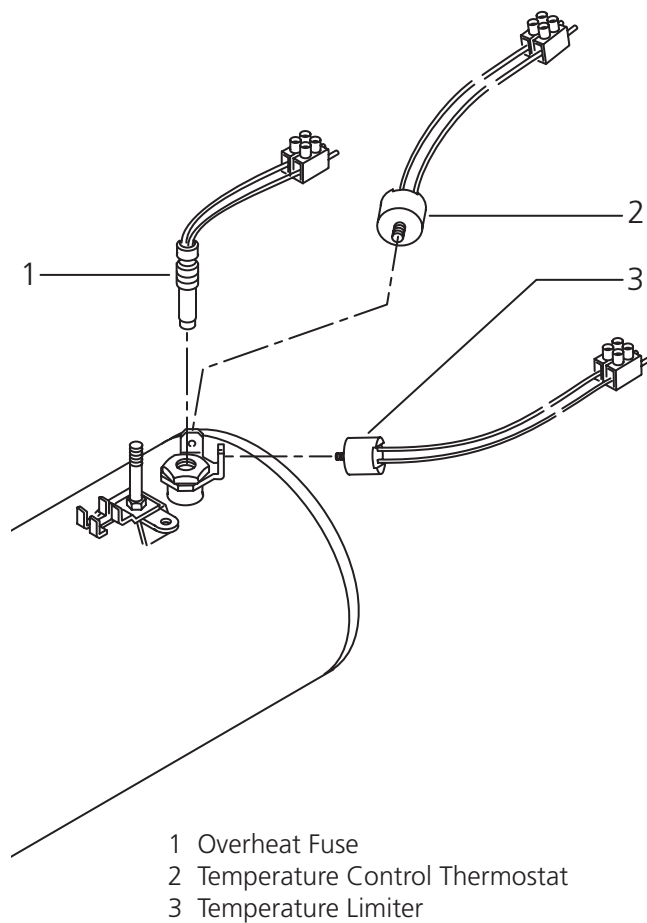

Figure 36: Temperature Control Elements
2. Turn counterclockwise to remove overheat fuse (item1, Fig. 36) from dry-well.
2. Turn counterclockwise to remove temperature control thermostat (item 2, Fig. 36).
2. Turn counterclockwise to remove temperature limiter (item 3, Fig. 36).